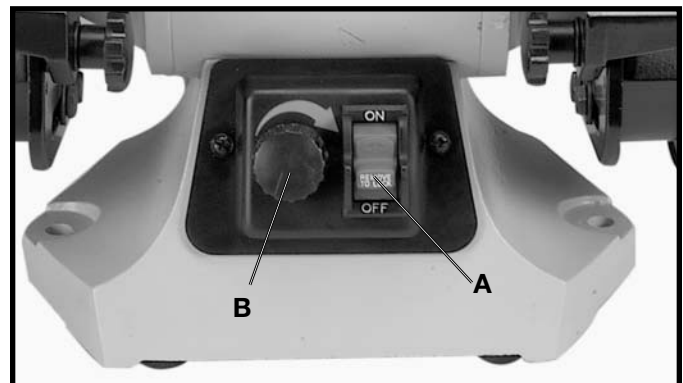

Fig. 10
The switch (A) Fig. 10, is located on the front of the grinder. To turn the grinder "ON" move the switch up to the "ON" position. To turn the grinder "OFF" move the switch down to the "OFF" position.
IMPORTANT: When the machine is not in use, the switch should be locked in the "OFF" position to prevent unauthorized use. This can be done by grasping the switch toggle (A) and pulling it out of the switch, as shown in Fig. 10. With the switch toggle (A) removed, the switch will not operate. However, should the switch toggle be removed while the sander is running, it can be turned "OFF" once, but cannot be restarted without inserting the switch toggle (A).
The grinder is equipped with a variable speed control (B) Fig. 10. When the variable speed control knob is positioned to the furthestmost left position (counter clockwise), the RPM is 2000. The rotation increases as the knob is turned clockwise. When the variable speed control knob is positioned to the furthestmost right position (clockwise), the RPM is 3450.